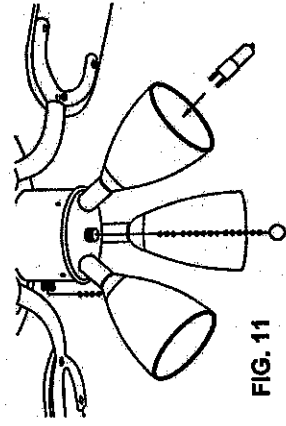

FIG. 11
- The light fitting is a Gu-10 light kit that can only be used 50 watt max. Gu-10 light bulb (provided) (See Fig. 11).
If a separate wall control is to be used for both fan and light please see wiring diagram supplied with control or SEE FIG. 11.